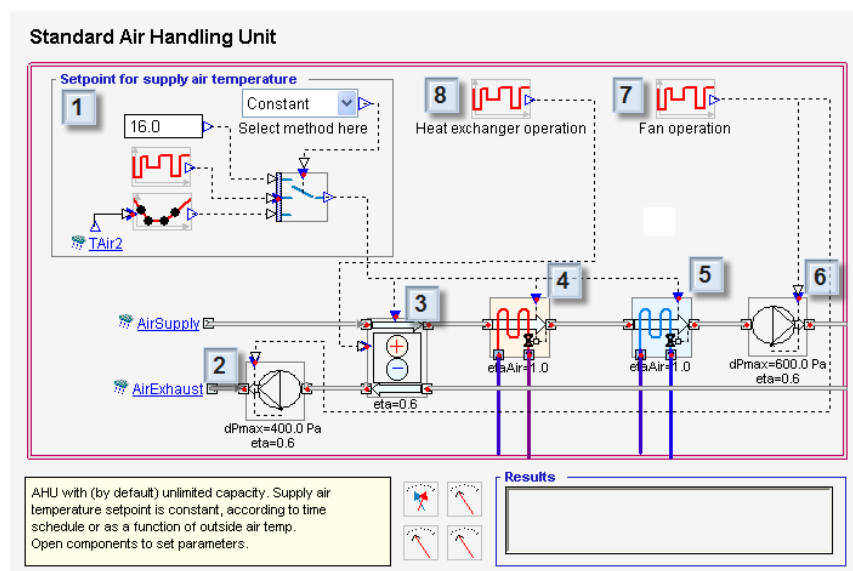

Figure 3.2 Default air handling unit
In the default configuration, the air handling system consists of the following components (Figure 3.2): supply air temperature setpoint controller (1), exhaust fan (2), heat exchanger (3), heating coil (4), cooling coil (5), supply fan (6), schedule (7) for operation of both fans
The heat exchanger (“3” in Figure 3.2) takes into consideration condensation on both the supply and exhaust sides. During wet processes, the given efficiency is interpreted as (1 - ”bypass factor”), in the same way as for the cooling coil, but the apparatus dew point for the heat exchanger is defined as the incoming temperature for the opposite medium.